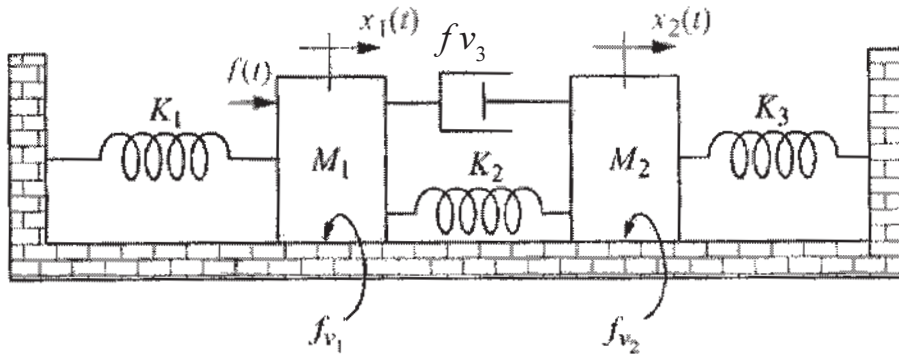

Fig.1
- b) Find the transfer function $X_2(s)/F(s)$ for the system shown in figure 1. [8]